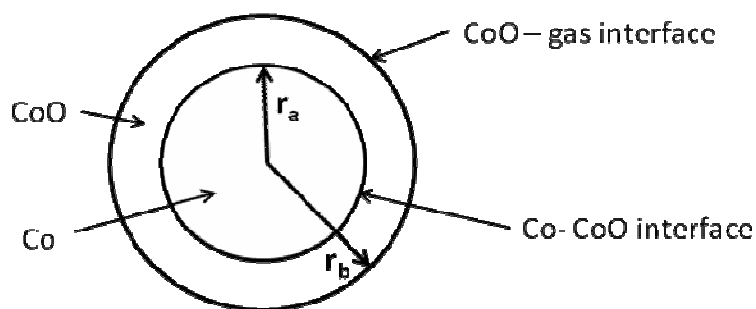

Fig. 2
Solid cobalt oxide (bulk) is formed in the reaction vessel. This causes an irreversible loss of the catalyst's mass. Solid cobalt oxide can also be deposited on the surface of Co(s). In this case the new spherical layer is formed around the surface of the catalyst (see figure 2) and the catalytic activity drops.
Assume now that solid cobalt oxide forms a spherical layer around a nanoparticle of cobalt. In this case the nanoparticle contains both a reactant (Co) and a product (CoO) (Fig. 2).
2.8 When spontaneous oxidation of Co begins the radii of two layers in the nanoparticle (Fig. 2) are almost equal, $r_a = r_b = r_0$, and $\Delta_r G^0(1, r_a, r_b) = \Delta_r G^0(1, r_0)$. Assume that